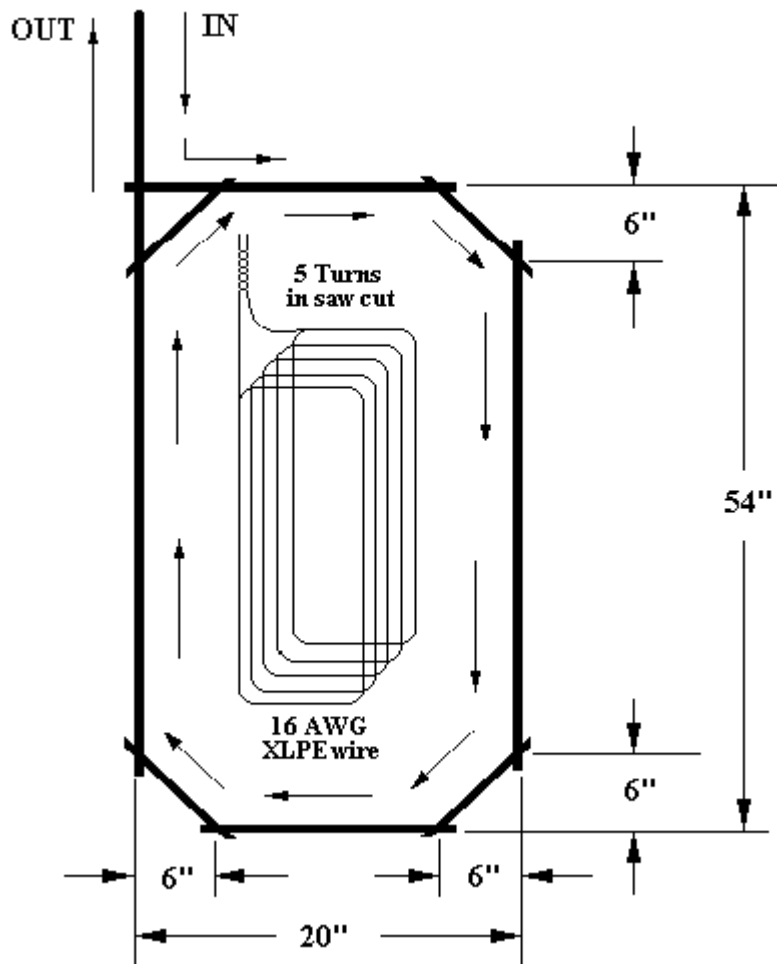

Figure 2
4. Mark the saw cut pattern on the surface of the drive-thru pavement as shown in figure 2. The pavement should be marked in a way so the saw operator can follow the pattern easily and the pattern cannot be erased by the flow of water from the saw. Position the loop so the back edge is 24 inches past the centerline of the window. For best operation, the loop should be located so it is approximately under the front axel of the vehicle when it is stopped at the window.
9. Start laying the 16 AWG XLPE loop wire into the saw cut from the termination lead-in out towards the loop. Continue around the loop in a clockwise fashion for five turns as shown in figure 2, and finally return to the lead-in termination. Be sure to route wire through the 45° diagonal cuts (avoid the 90° square corners) to prevent damage to the wire insulation. The wire must be wound using one continuous piece of wire. **Do Not Use Spliced Wire In The Slot!** The wire must be carefully and firmly installed into the saw cut slot to avoid damage to the insulation. Using sharp objects such as screwdrivers, putty knives, and thin sheets of metal can damage the insulation and must not be used.